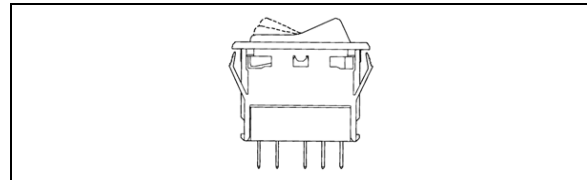

FIGURE 31: SWITCH
3. To install a new switch, reverse the procedure (FIGURE 31).